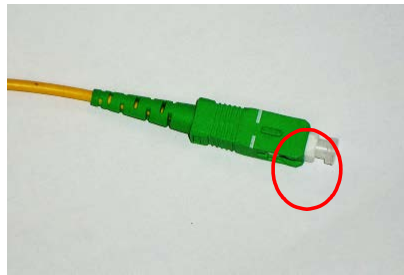

Figure 3-6 SC/APC Optical Connector Dust Cap
- When optic connector are not in use, the port should be covered with a protective dust cap. (Figure 3-6)